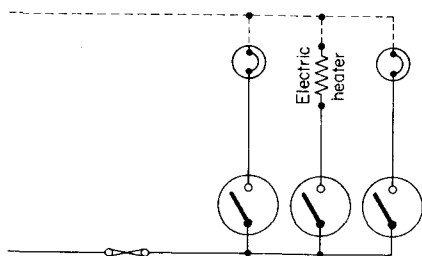

Fig. 3.172
3. Circuit consisting of two lamps and an electric heater each controlled by its own switch. (Fig. 3.172)